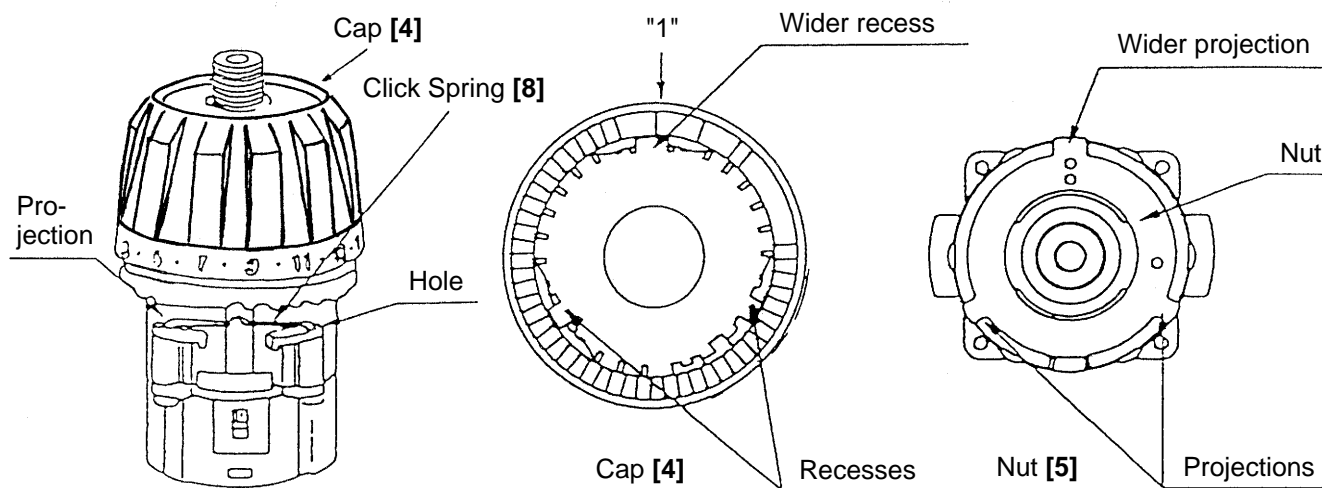

Fig. 11
- (c) Install the Click Spring **[8]** and the Cap **[4]** on the assembly reassembled in step (b). (See Fig. 11.)